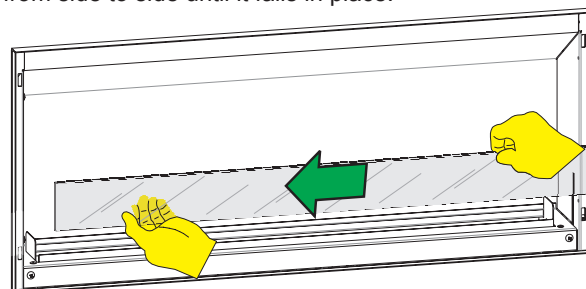

Figure 14
17. Install glass panel in front of burner as shown in **Figures 14 and 15**. Place one end into slot inside the fireplace as shown in **Figure 14**. Move other end of glass into fireplace opening and into slot on other side of fireplace. Move glass panel from side to side until it falls in place.